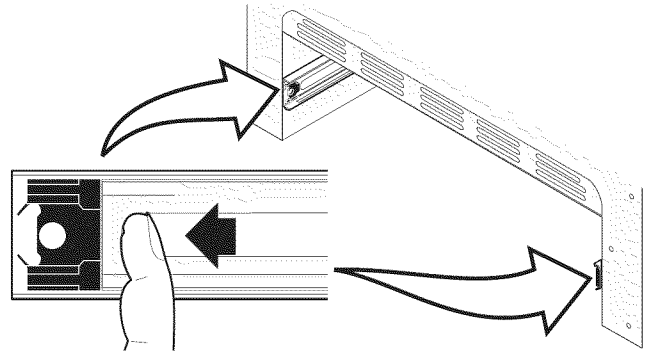

Figure 37: Bearing glide placement
1. Pull the bearing glides to the front of the outer compartment glide channels until they snap into place (See Figure 37).